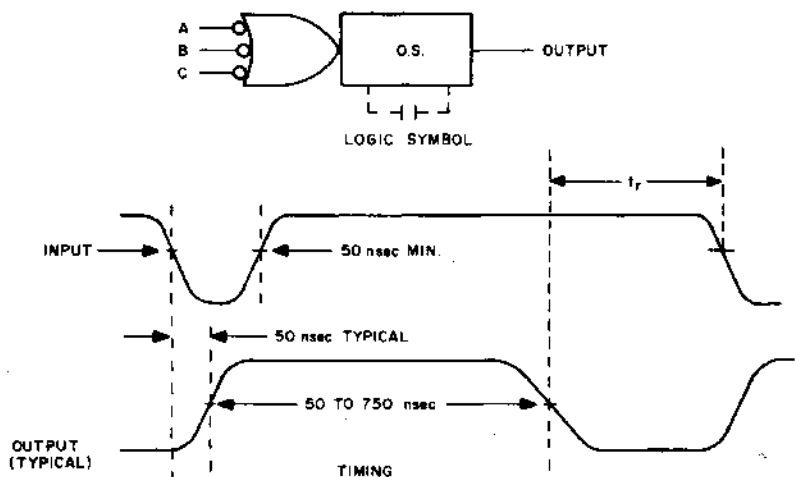

Figure 21. One-Shot Delay Timing and Logic Symbol
**One-Shot Delay:** Calibrated time delays of adjustable duration are generated by the M302 Delay Multivibrator. When triggered by a level change from a logical one to a logical zero, this module produces a positive output pulse that is adjustable in duration from 50 to 750 nsec with no added capacitance. Delays up to 7.5 milliseconds are possible without external capacitance. (See M302 specification.) Basic timing and the logic symbol are shown in Figure 21. The 100 picofarad internal capacitance produces a recovery time of 30 nsec. Recovery time with additional capacitance can be calculated using the formula;